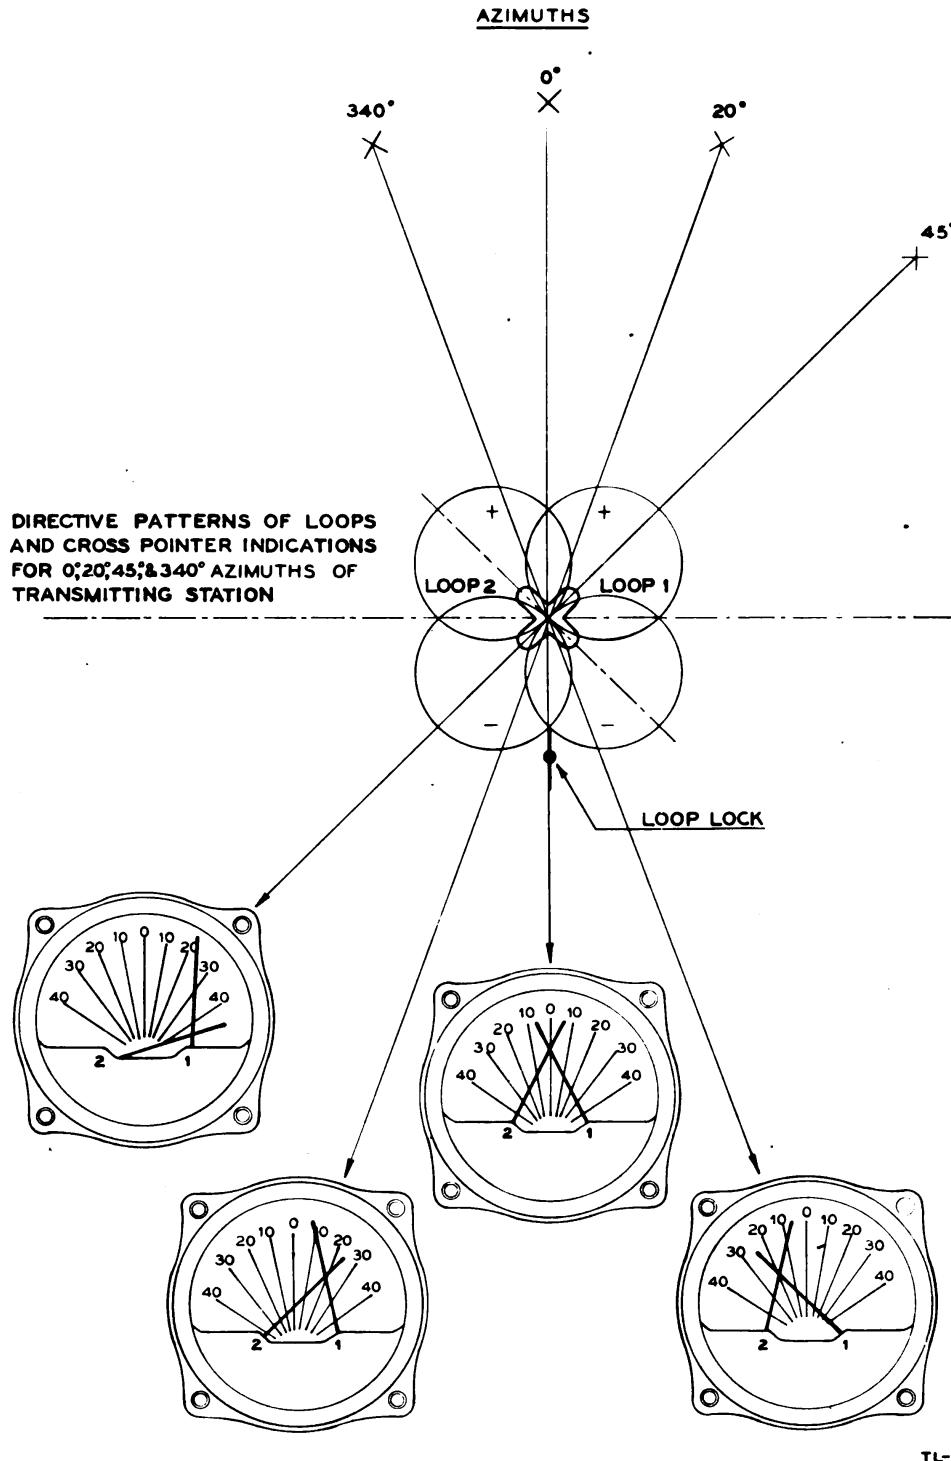

Figure 14. Crossed pointer indication.
(5) To talk on the telephone line, insert the plug for Microphone T-35 into its jack. Set the switches in the position to give signals from the line on the right phone jack (as in par. (4) (b) above), that is, left toggle switch to OFF LINE and right toggle switch to RADIO & PHONE. Turn on the switch on the microphone to talk on the line.
b. The regular instructions (with the exception of turning the loop) apply to this method of operation. Therefore, follow the procedure outlined in paragraphs 6a(1) through 6a(10), but do not unlock the loop. The receiver will thus be in a balanced condition. When the balance knob is released and the pointer intersection moves to its free position, the amount of deviation of the signal from the original zero, is read off directly in degrees (fig. 14).
a. Single channel null method (visual indication). (1) It will be noted that Radio Set SCR-503-A comprises two complete single loop direction finders, either one of which may be used to obtain azimuths by the null method, should the other loop circuit become damaged or inoperative due to unusual circumstances. The null
b. If this method is used, the loop will be locked at 0° on its scale. In the case of a station transmitting from an azimuth of 20° , the loop voltages will no longer be equal and the intersection of the meter pointers will occur off the mid-scale line. Figure 14 shows that the location of the DIRECTION INDICATOR pointer intersection is related to the station azimuth. By means of the special graduation lines on the meter dial, the angle can be read off directly in degrees.